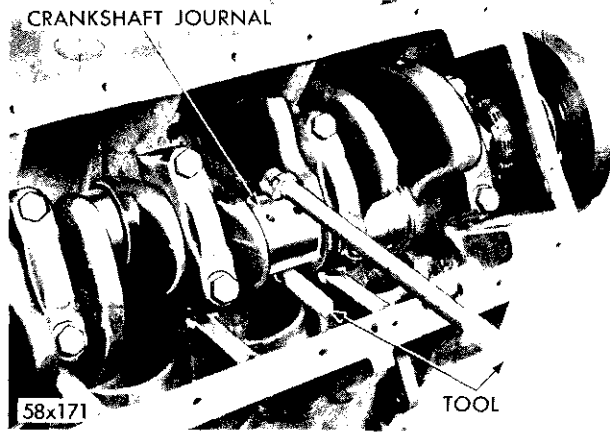

Fig. 48—Removing or Installing Connecting Rod Using Tool C-3221
(1) Before installing the pistons, rods, and rod assemblies in bore, be sure that compression ring gaps are diametrically opposite one another and not in line with oil ring gap.
(2) The oil ring expander gap should be toward the outside of the "V" of the engine. The oil ring gap should be turned toward the inside of the "V" of engine.
(3) Immerse the piston head and rings in clean engine oil, slide the ring compressor, Tool C-385, over the piston and tighten with the special wrench (part of Tool C-385).
(4) Be sure the position of rings does not change during this operation. Screw the connecting rod bolt protector (part of Tool C-3221) on one rod bolt, and insert the rod and piston into cylinder bore.
(5) Attach the puller part of Tool C-3221 on the other bolt, and guide the rod over the crankshaft journal, as shown in Figure 48.
(6) Tap piston down in the cylinder bore, using the handle of a hammer. At the same time, guide connecting rod into position on crankpin journal.
(7) The notch or groove on the top of the piston must be pointing toward front of the engine and the larger chamfer of the connecting rod bore must be installed toward crankpin journal fillet.
(8) Install the rod caps, tighten nuts to 45 foot-pounds torque.